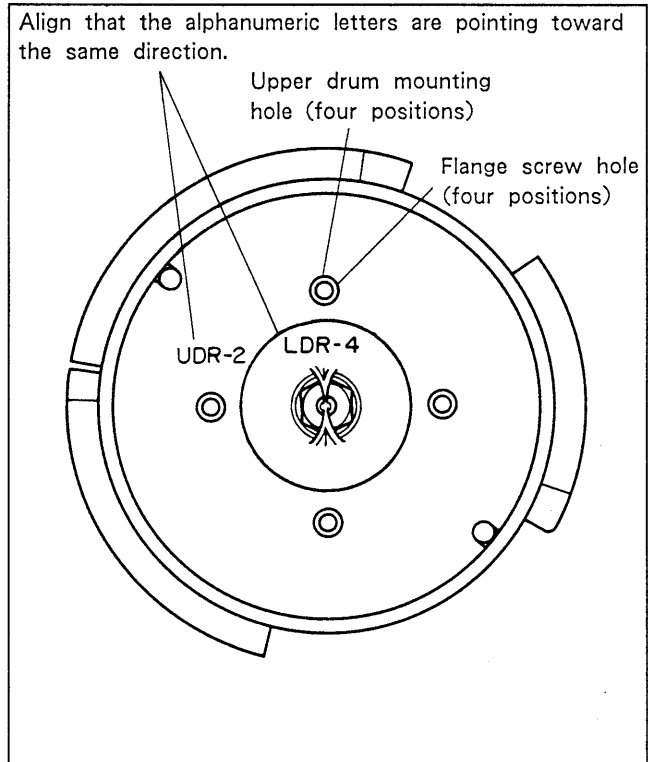

Fig. 6-1-5. Upper Drum Installation (Aligning Positions)
6. Align the mounting direction of the LDR-4 board on the flange and that of the UDR-2 board on upper drum so that alphanumeric letters on them are pointed toward the same direction as shown in Fig. 6-1-5. Furthermore, align the screw holes (four positions) of the upper drum and that of flange as shown in Fig. 6-1-5.